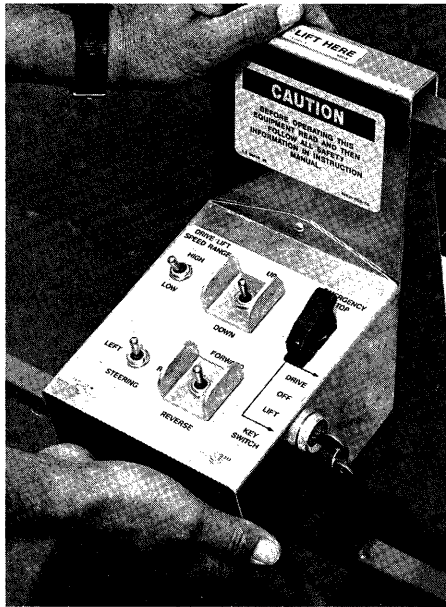

Figure 4.
1. Hang control console on guardrail (Figure 4).